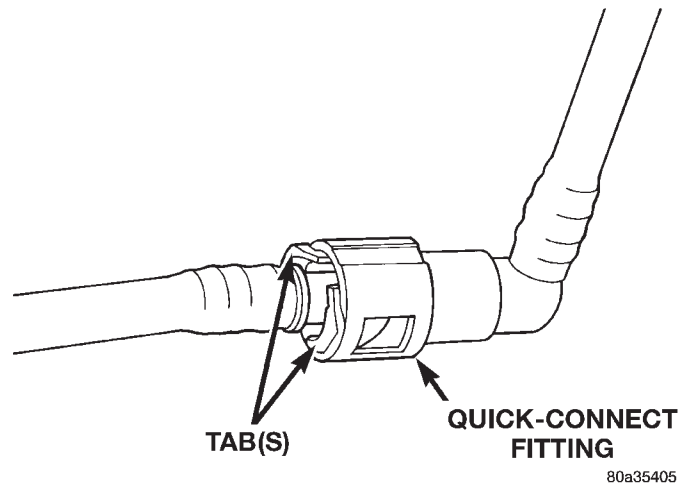

Fig. 19 Typical Two-Tab Type Quick-Connect Fitting
(5) **Two-Tab Type Fitting:** This type of fitting is equipped with tabs located on both sides of fitting (Fig. 19). The tabs are supplied for disconnecting quick-connect fitting from component being serviced.
(a) To disconnect quick-connect fitting, squeeze plastic retainer tabs (Fig. 19) against sides of quick-connect fitting with your fingers. Tool use is not required for removal and may damage plastic retainer.